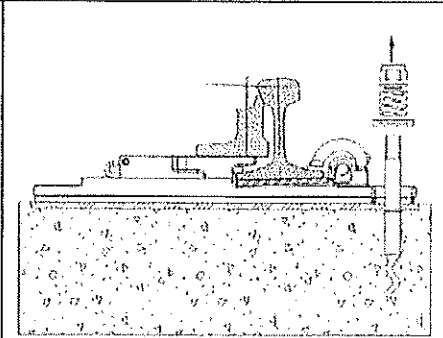

Fig. 6-Half set of switches with rail seats
2. Loosen and remove fastening elements for base plates (Eccentric bushes, compression springs, collared washers and self-locking nuts) and remove the insulating bushes, Fig. 6.